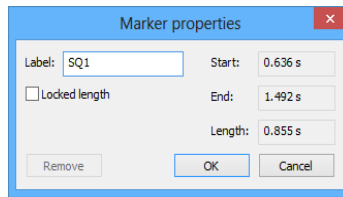

Figure 380 – Marker properties dialog
4. Release the left mouse button. The **Marker properties** dialog is automatically displayed (see Figure 380).